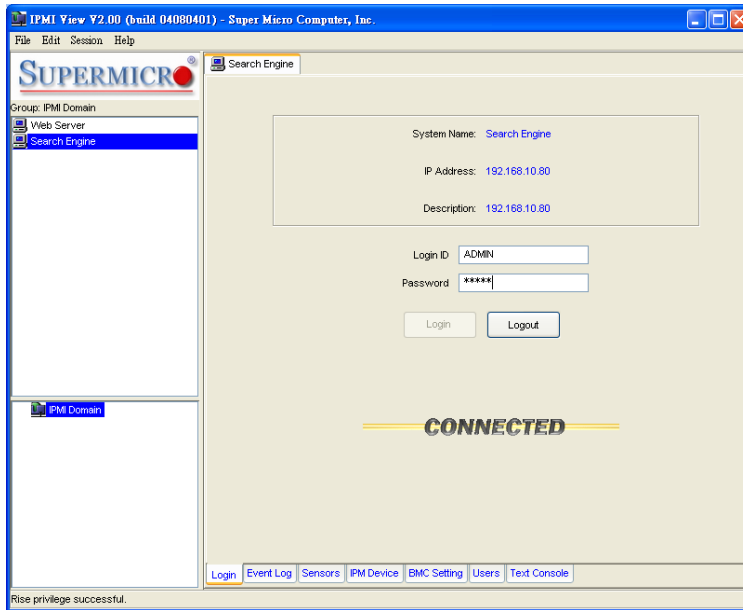

Figure 8: Connect to IPMI System
- c) Click on File > New > System to add a new system to manage. Enter the IP you found (step VI-1-c). Click on File > Save Configuration. Double click on the new system name you just added (in the window on the left) to bring up the manage screen (see the Figure 8 below). Click on the BMC Setting page and fill in the correct IP, MAC and Gateway information for the system, then click on Update. Repeat this step until all systems to be managed have been added.